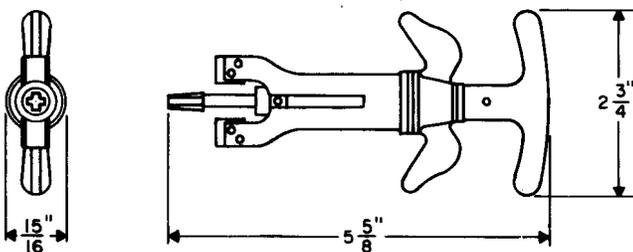

Fig. 5—478A Jack Sleeve Remover Tool
2.07 **478A:** The 478A jack sleeve remover tool (Fig. 5) is used on 92-type jacks.